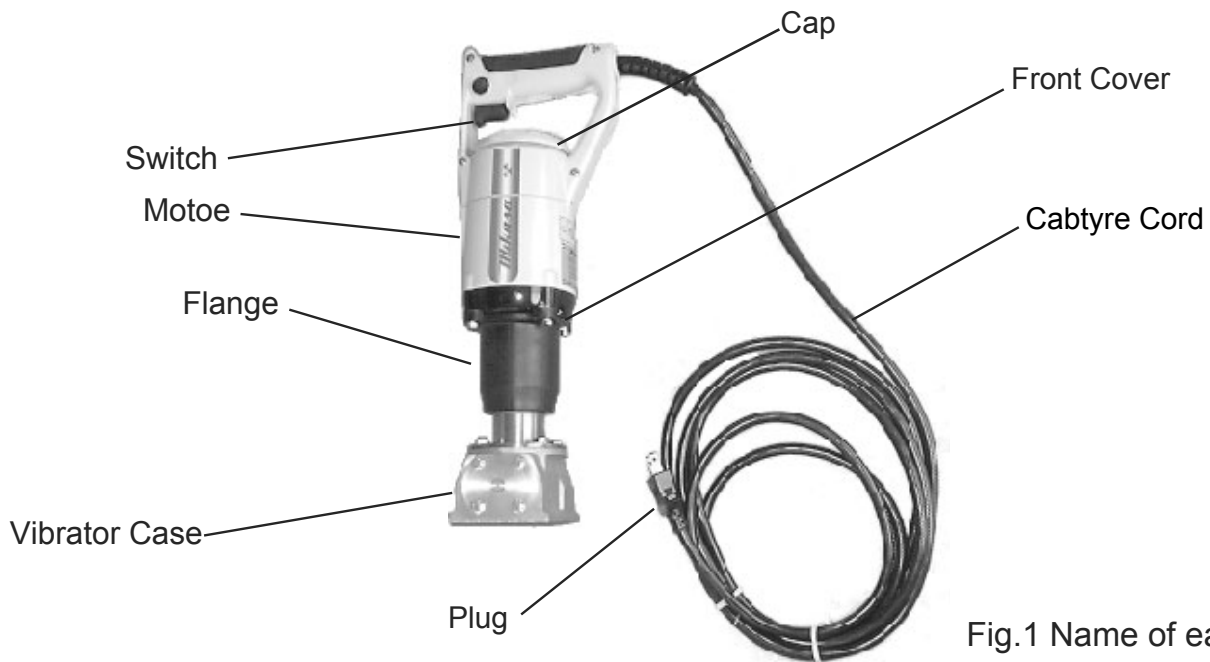

Fig.1 Name of each part
- If the air vent is clogged, overheating occurs, which might result in burnout. (Refer to Figure 1)